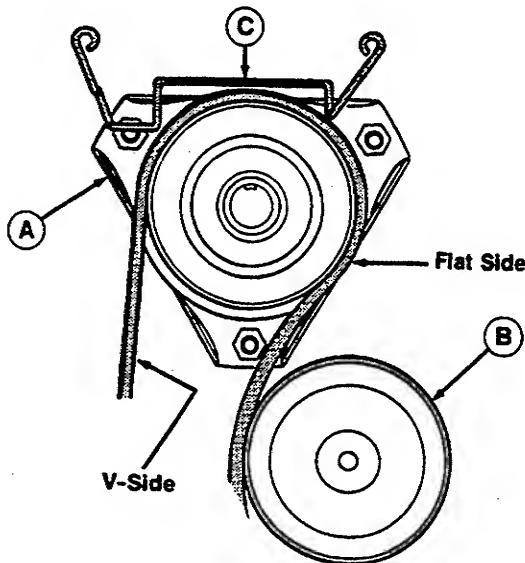

Figure 4. Belt Installation
2. Route belt underneath rider and over the drive axle. Install mower belt around bottom pulley (V-side) of PTO. Refer to figure 4.
9. See figure 4. Remove mower belt from bottom pulley (V side) and idler pulley (flat side). Hardware securing belt stop may need to be loosened to remove belt.